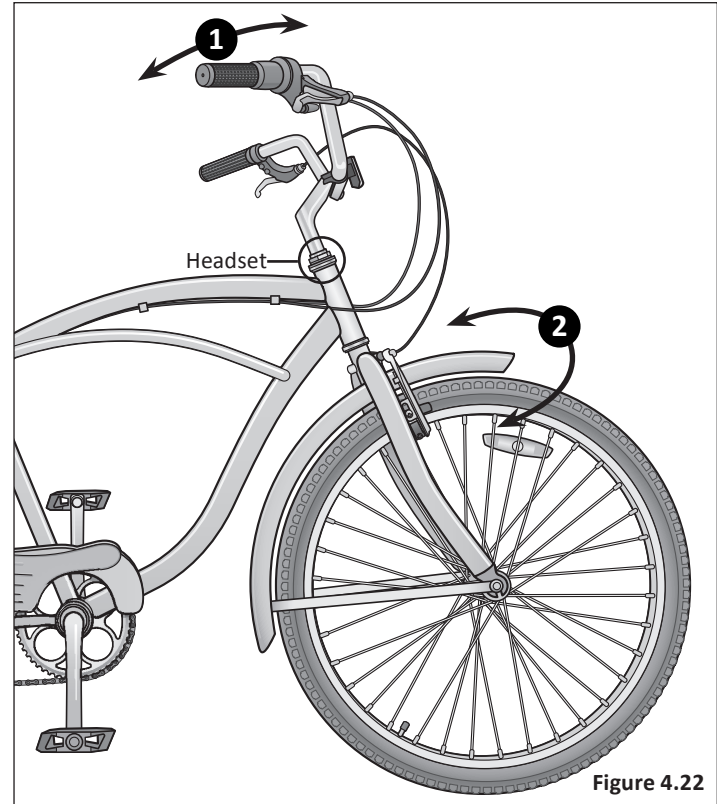

Figure 4.22
- 1 Shakiness:** Apply the front brake and push the handlebars back and forth, front to back or if the bicycle is on a workstand and the front wheel removed, push and pull on the forks. If you feel a knocking sensation or "clunk" it means the headset is too loose. **Important!** Use care with suspension forks, because the legs may have play in sliders. Grab upper portion of fork. **Figure 4.22**